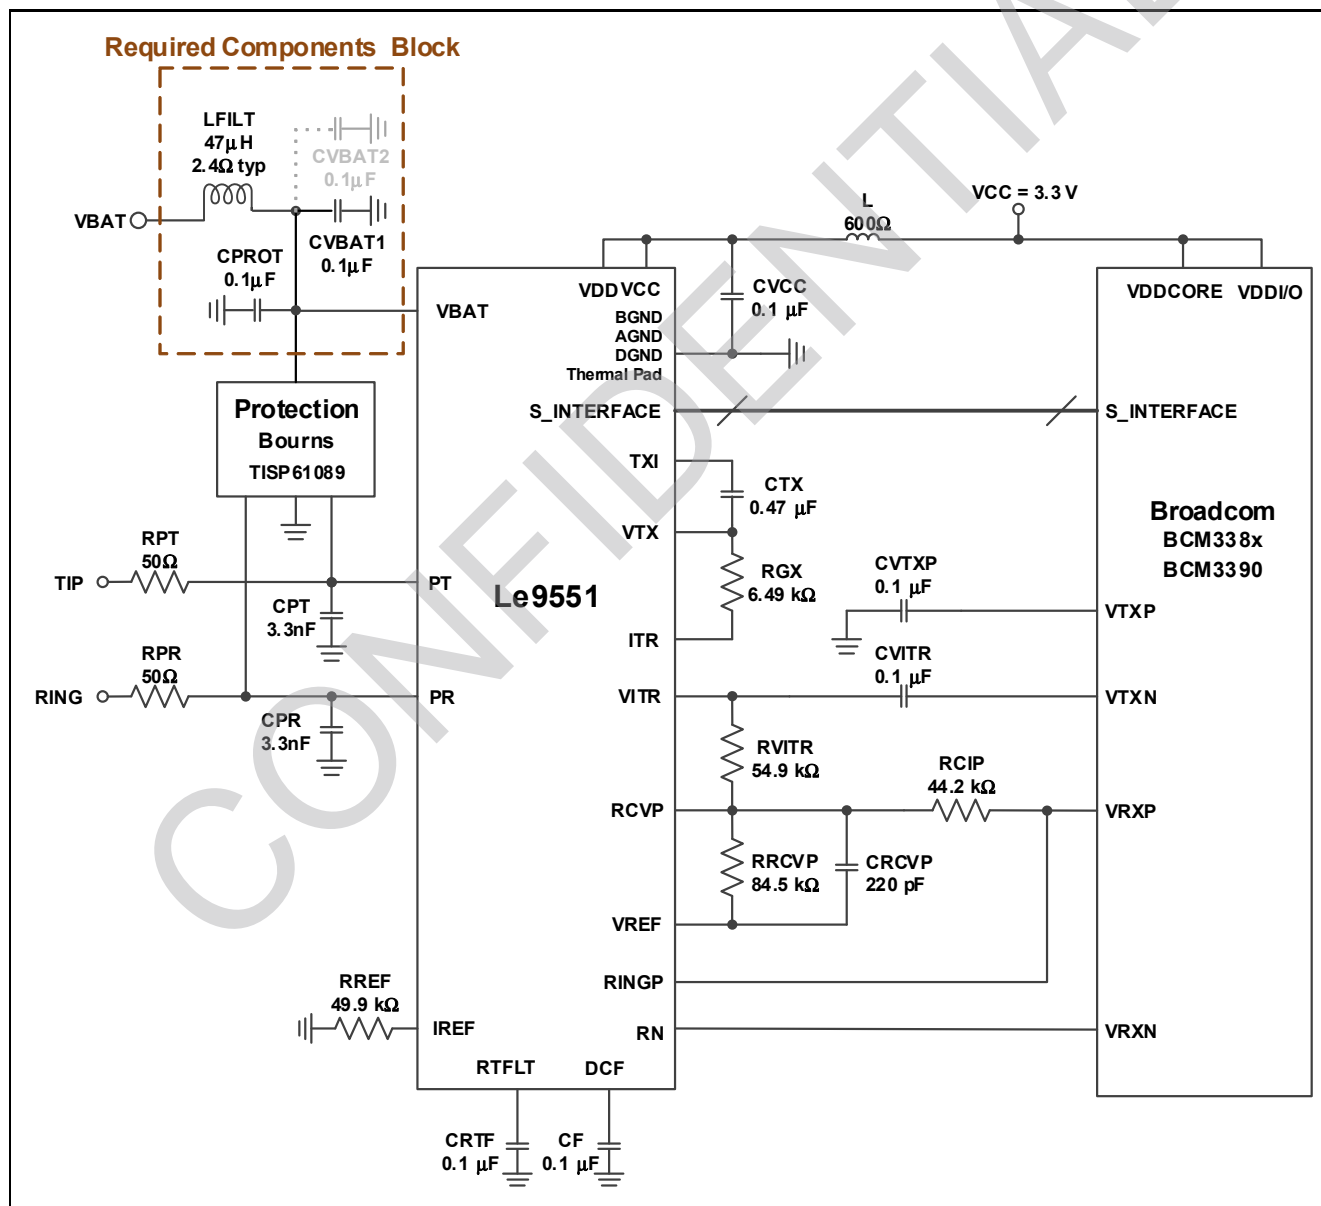

Figure 11 - Reference Schematic Interfacing Broadcom Codec
- Added device requirements in the Required Component Block in Figure 11 and "Application Circuit Parts List" on page 28